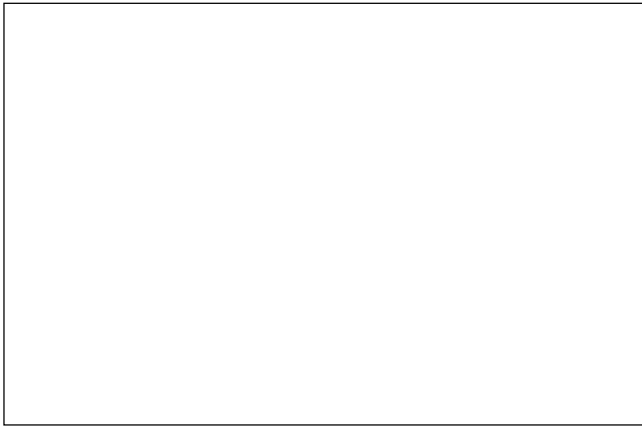

Figure 10. Adjusting the Pressure Switch
- 5. Use a 7/32 inch (5.55 mm) Allen wrench to adjust the switch. Slowly turn the adjustment clockwise (raising the setting) until the pump turns OFF (see Fig. 10).